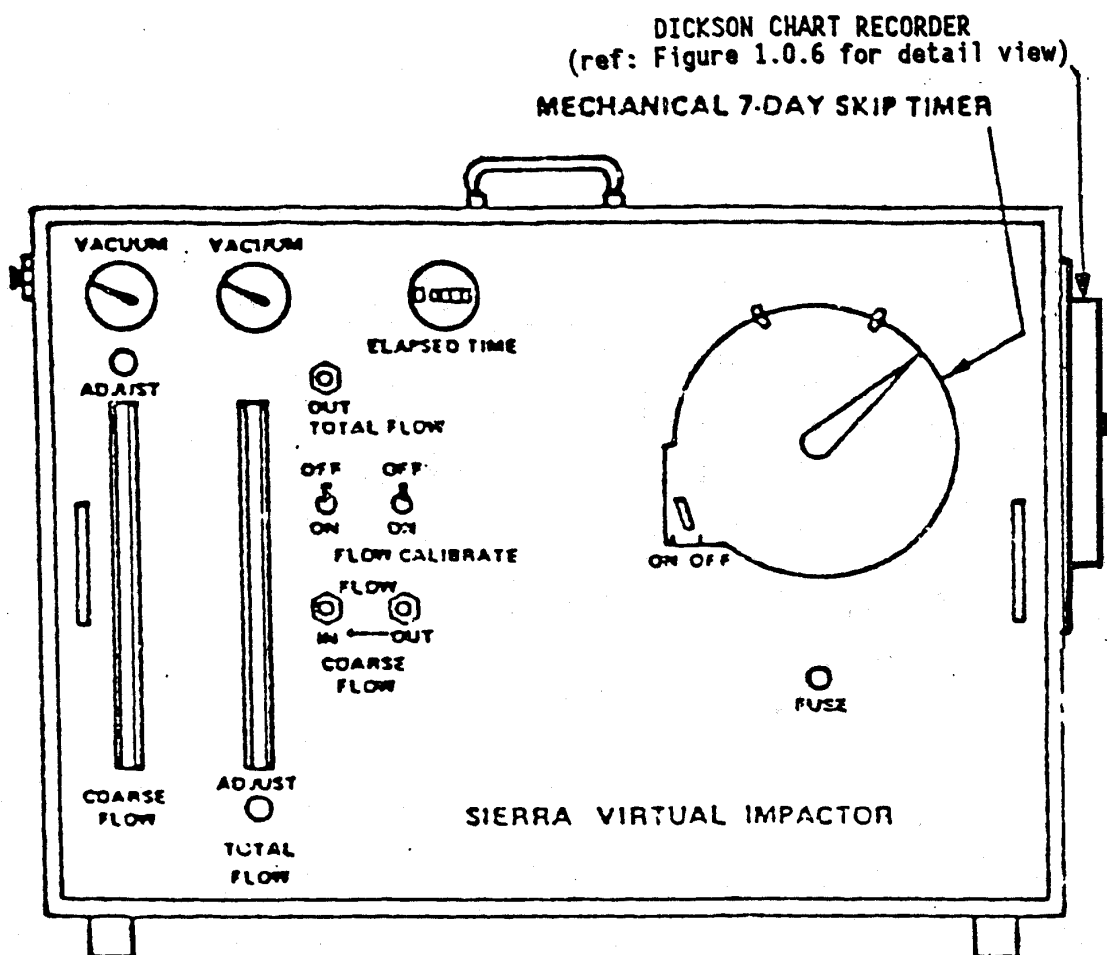

Figure M.1.0.3
2. **Control Module** - The control module contains valves for setting the sample rate, rotameters for observing the sample rate, a pump to draw the sample, a flow controller to keep the sampling rate constant, an automatic timer to start and stop sampling, and an elapsed time recorder. The control module is 14" high by 16" wide by 19" deep. The front panel of a typical control module is shown in Figure M.1.0.3.
NOTE: Your control module may or may not have a pressure switch or recorder and may differ slightly from Figure M.1.0.3. Some Model 241 samplers have a Dickson chart recorder mounted on the end of the cabinet, as shown in Figure M.1.0.3. The recorder is used to determine continuity of flow and any fluctuations during the 24-hour run, and is not used quantitatively to measure flow.